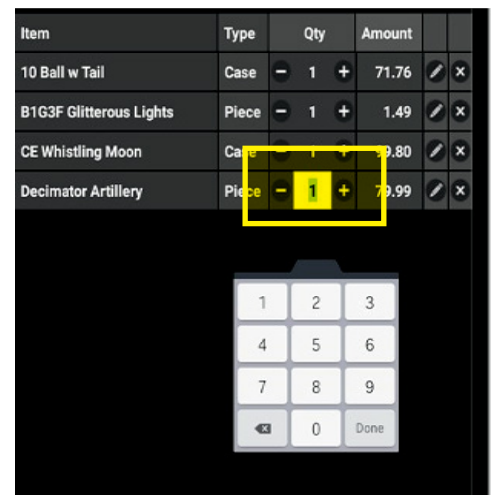

Figure 68
12. Update the quantity and continue (Figure 68)